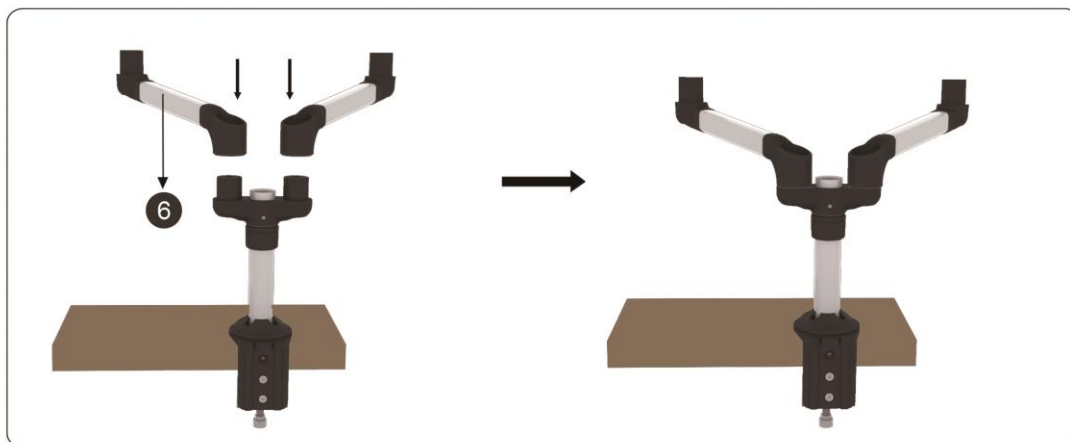

Figure 3-2
2. Install extension arms (6) onto the DEK (See Figure 3-2).